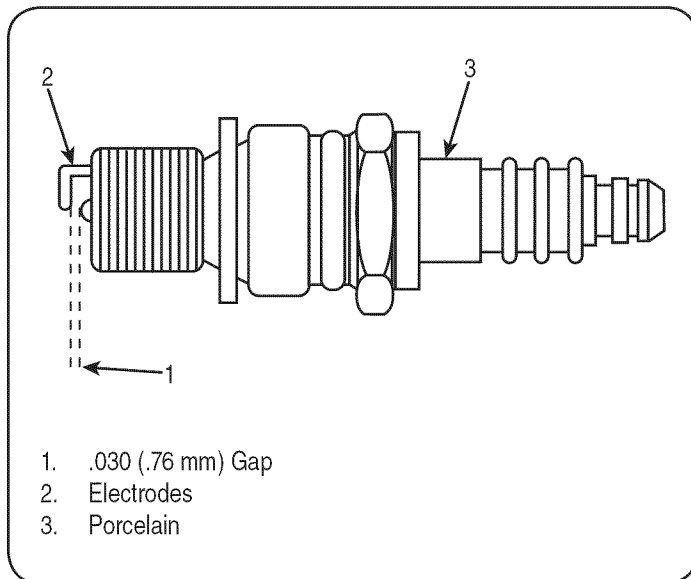

Figure 19
4. Check the electrode gap with a wire feeler gauge and reset the gap to .030 inches. See Figure 19.